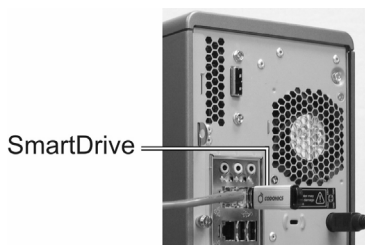

Figure: 7
3. Disconnect the SmartDrive from the USB port on the back of the original chassis and connect it to a USB port on the back of the replacement chassis (see Figure 7).